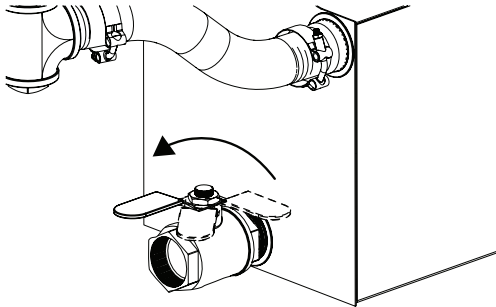

Figure 55
3. For tanks with the 4" ball valve, turn the valve lever clockwise 1/4 turn to open the valve (Figure 55).